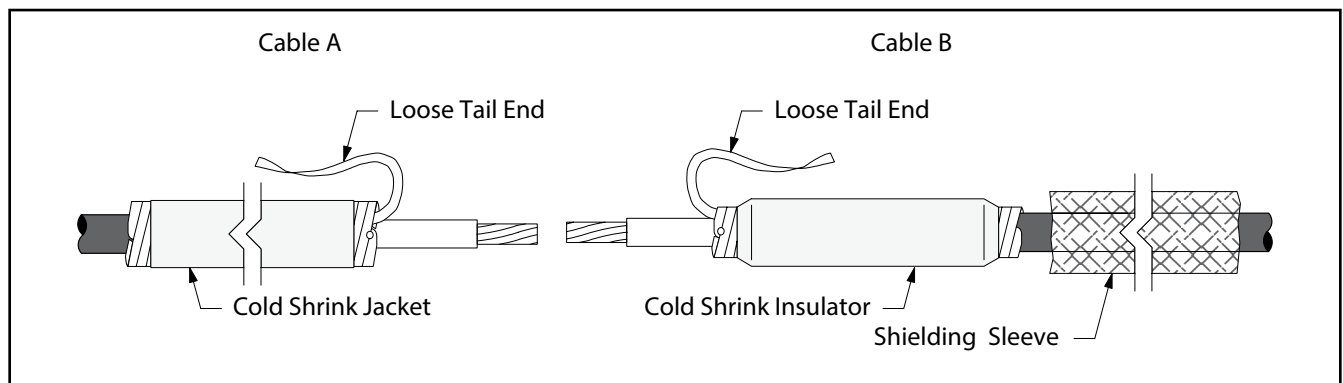

Figure 6
- a. Slide cold shrink Jacket (longer, non-tapered tube) onto one cable (*Figure 6*).
- b. Expand diameter of shielding braid sleeve by pushing in at ends (to shorten length) and slide onto other cable (*Figure 6*).
c. Slide cold shrink insulator (tapered ends) onto cable (behind shielding braid sleeve if used) (*Figure 6*).